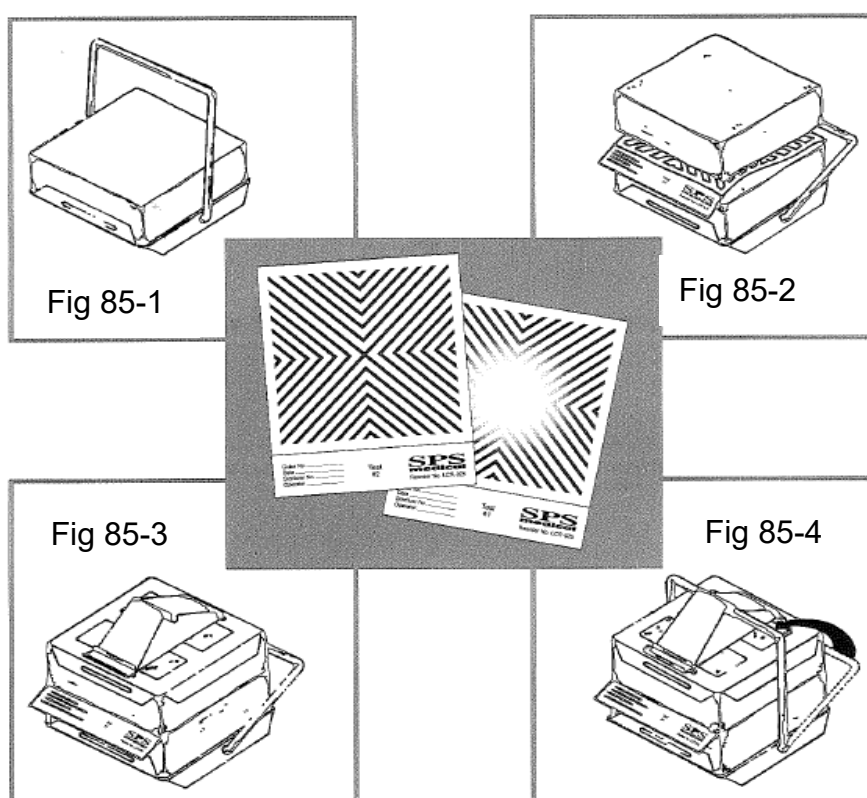

Figure 85
1. Assembly of the cube is reference Figure 85.